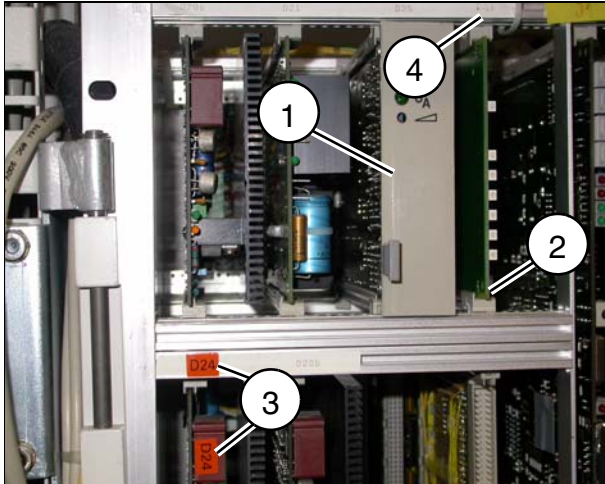

Fig. 1
- Remove the board D25 (1/Fig. 1)
- Fasten the socket connector for board D23 at the slot next to board D25 (2/Fig. 1). Use the supplied slotted cap screws for this. If there are no threads available in the control frame, then use self-tapping screws M2.5 x 8 with Phillips head.
- Label the slot with D23 (4/Fig. 1).
- Affix label D24 at position (3/Fig. 1).